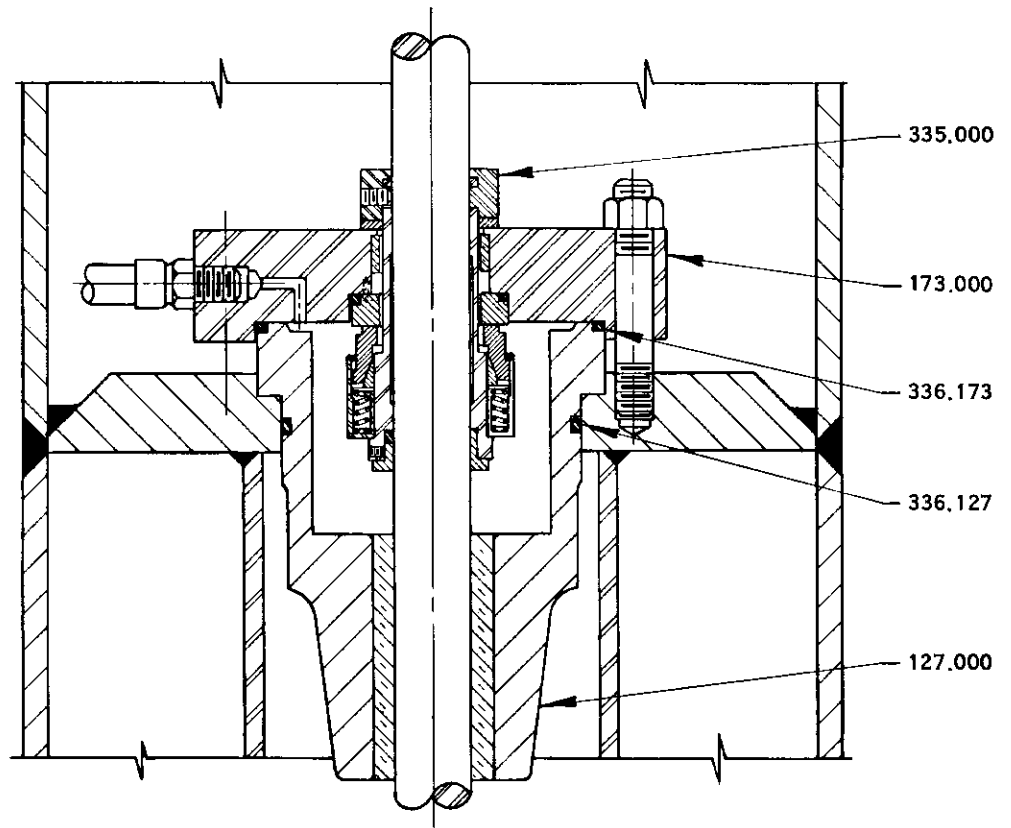

Fig. 6-4 Seal Arrangement.
1. Place an O-ring in the groove in the cylindrical portion of the seal container (127.000). Install the seal container in the discharge head, taking care not to pinch the O-ring on the edge of the hole. If the seal container has an O-ring groove in its top surface (Fig. 6-4), install an O-ring in this groove.